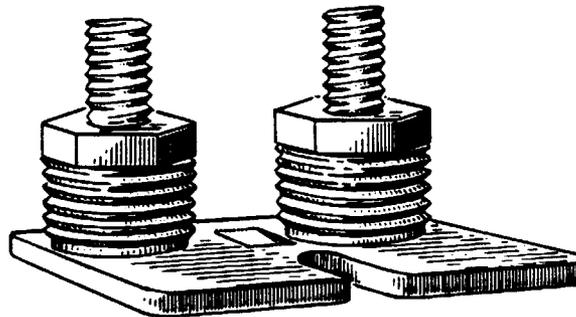

Figure 59—2A Ground Strip
7.03 The 2A ground strip (Figure 59) consists of a brass plate with two binding posts. The plate has a U-shaped slot for a mounting screw and a depressed tab which prevents the ground strip from turning after it is installed. The 2A ground strip has a capacity of 14 wires. The 2A ground strip installed in a 199A1A50-100 protector is illustrated in Figure 60.